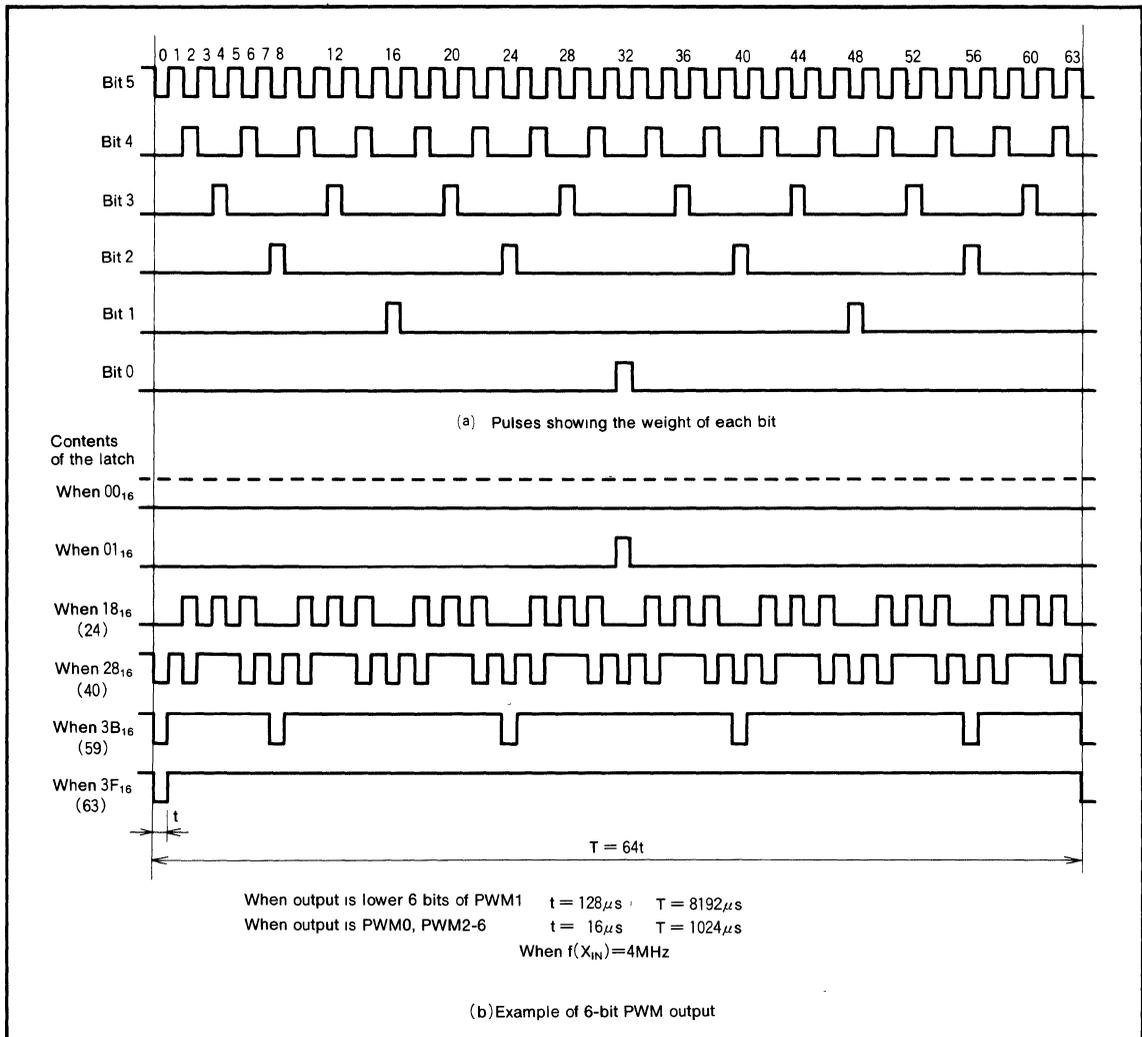

Fig. 14 6-bit PWM timing diagram
(4) Operation of the 6-bit PWMs
The timing diagram of the two 6-bit PWMs (PWM0 and PWM2-6) is shown in Figure 14. One period (T) is composed of 64 (2⁶) segments.
There are six different pulse types configured from bits 0 to 5 representing the significance of each bit. These are output within one period in the circuit internal section. Refer to Figure 14 (a).
Six different pulses can be output from the PWM. These can be selected by bits 0 through 5. Depending on the content of the 6-bit PWM latch, pulses from 5 to 0 is selected. The PWM output is the difference of the sum of each of these pulses. Several examples are shown in Figure 14 (b). Changes in the contents of the PWM latch allows the selection of 64 lengths of high-level area outputs varying from 0/64 to 63/64. An length of entirely high-level output cannot be output. i.e. 64/64.